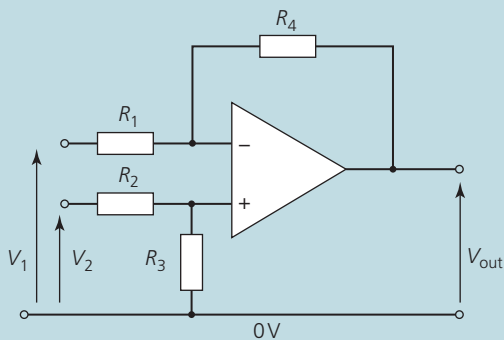

Figure 13
10. Figure 13 shows an op-amp acting as a difference amplifier.